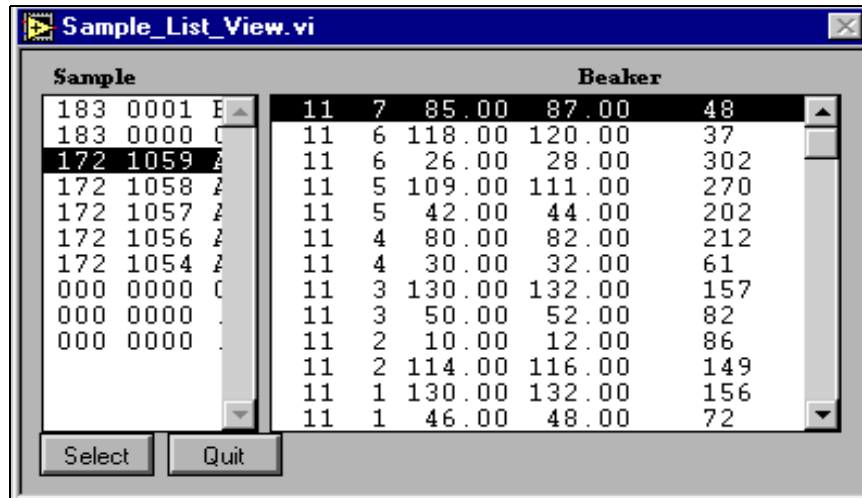

Figure 27. Select the beaker here.
2. If you selected "wet" or "dry" as the cell type, click on the **List** button to display a list of beakers. From this list, first select the current leg number in order to display all available beakers. Next, click on your beaker of choice, then the **Select** button (See Figure 27).